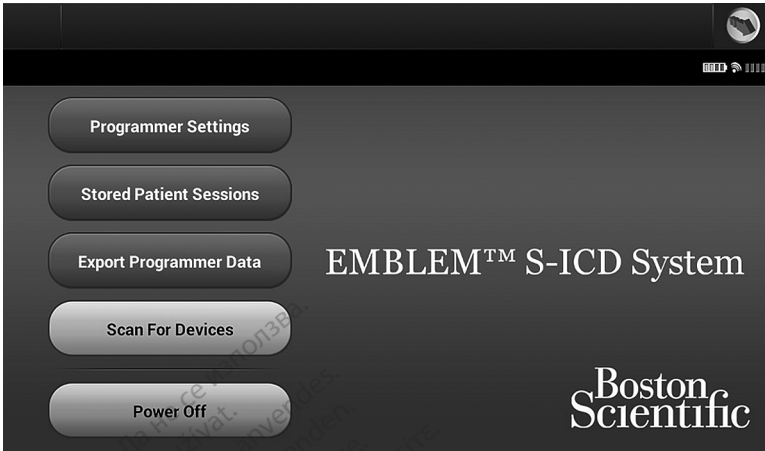
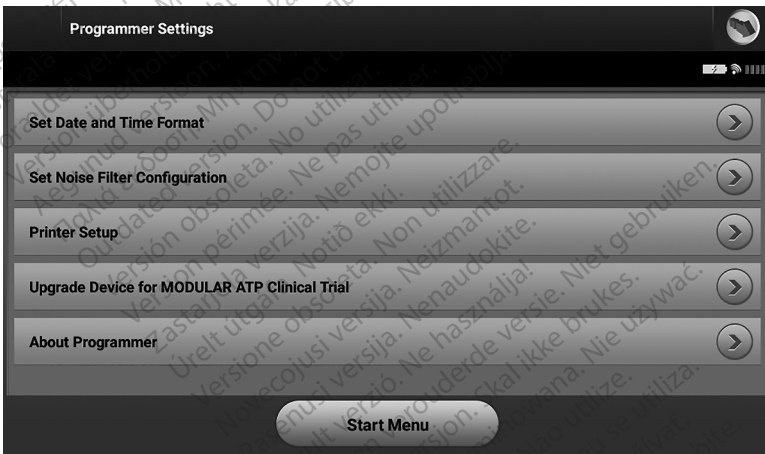

Figure 9. S-ICD programming application start-up screen
Figure 10. S-ICD Programmer Settings screen
1. Select the Programmer Settings button on the EMBLEM S-ICD start-up screen (Figure 9 S-ICD programming application start-up screen on page 17) to display the Programmer Settings screen (Figure 10 S-ICD Programmer Settings screen on page 17).